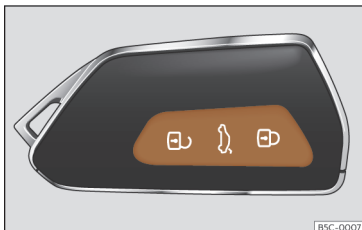

Fig. 73 Remote control key: buttons.
- Lock: press the button >>> Fig. 73.